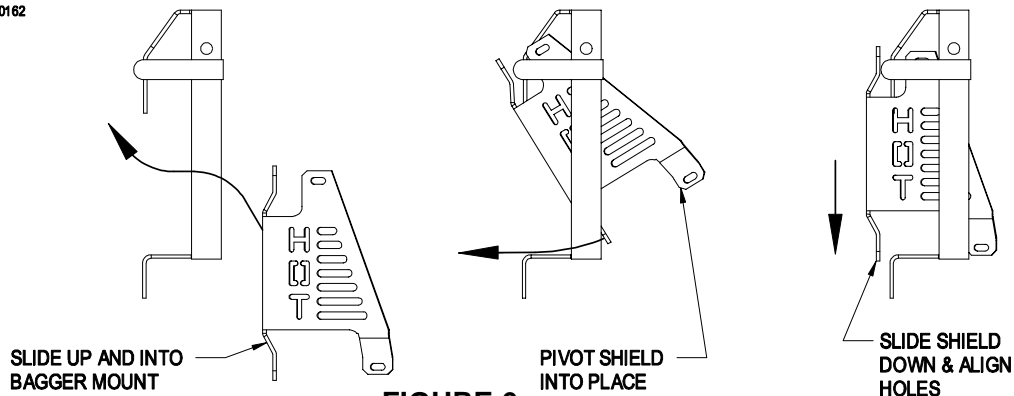

FIGURE 6
- 3.4.2. Working from the front side of the bagger mount, slide the top end of the engine guard up and into the mount. Pivot the lower end through the bagger mount and slide it down into place until the holes align with the holes in the bagger mount (See Figure 6).